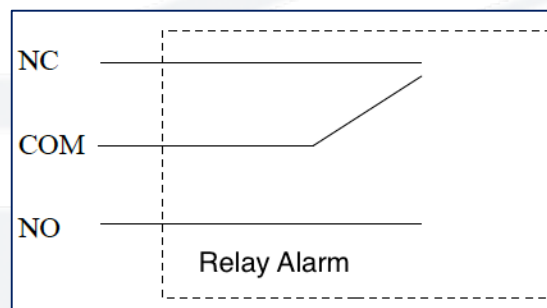

Fig.6
- Terminal X1-Rele/Relay Alarma. Output for Alarm status of the Control centre. Relay switch with maximum parameters of voltage commutation $-U=100V$ and current $-I=1A$. The scheme of switching is shown in Fig. 6.